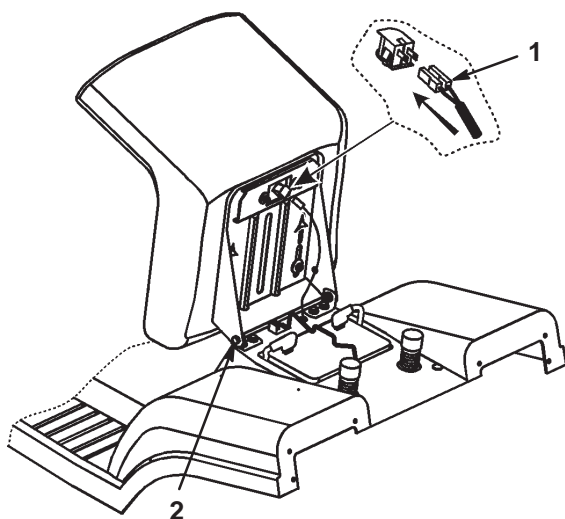

Figure 2
3. Set the seat in place and secure it with the two bolts, spring washers, and flat washers (Fig. 2).
4. Connect the safety switch to the seat (Fig. 2).